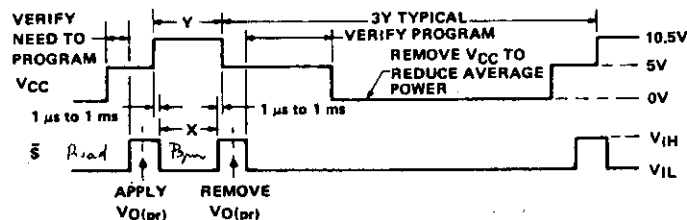

FIGURE 2 — VOLTAGE WAVEFORMS FOR PROGRAMMING
6. Apply a low-logic-level voltage to the chip-select input(s). This should occur between 1 μs and 1 ms after V_{CC} has reached its 10.5-V level. See programming sequence of Figure 2.